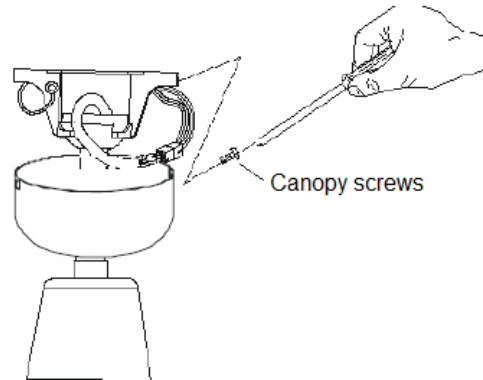

Fig. 10
- Cover the mounting bracket with the canopy. Ensure all electrical wiring is tucked inside the canopy and that they are not damaged during this step. Secure the canopy to the hanger bracket using the screws provided. Fig 10.